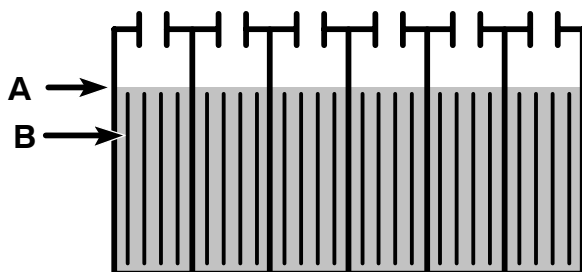

FIG. 51
The electrolyte level (A) should slightly cover the battery plates (B). Add distilled water as needed. DO NOT OVERFILL, the fluid may expand and overflow while charging. Replace cell caps before charging (Figure 51).